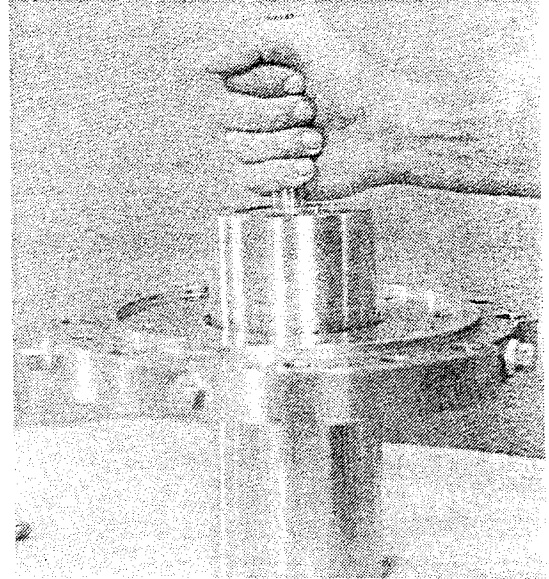

Figure 5
6. Thread a set bolt (Item 13) into the shaft flange from the impeller end and tighten. Lift the inner magnet assembly by the shaft and slowly slide it into the rear casing [Fig. 5]. Be careful of the tight tolerances between the rear bushing and sleeve. **This should only be done when the outer magnet is removed.**